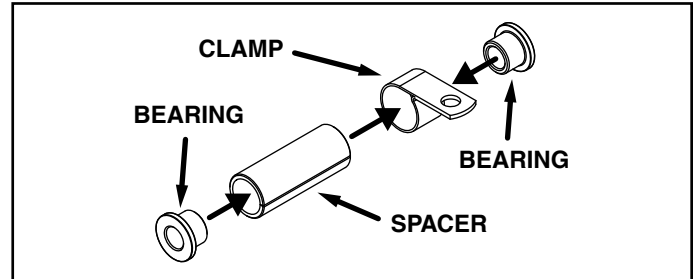

FIGURE 3
- Assemble the four bearings to the two spacers and then slide each through a clamp. See figure 3.